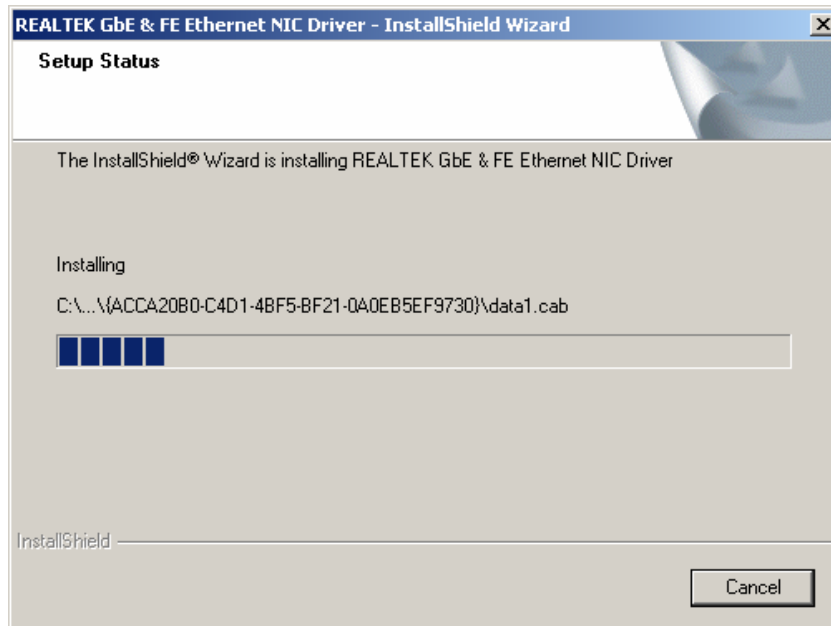

Figure 6-18: Realtek LAN Driver Setup Status
Step 4: Click INSTALL and the Setup Status screen appears as the driver is installed (Figure 6-18).